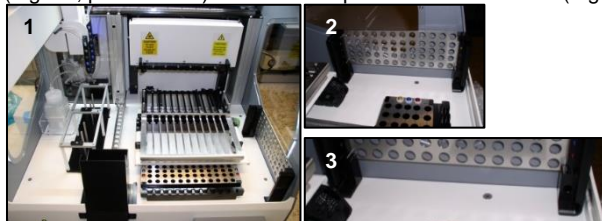

Fig. 28: Interior of the instrument for UV decontamination of the column rack and safety cover.
8. Replace all racks to the instrument. Place the column rack to the right side of the pipette tip holder for UV cleaning (Fig. 28, part 1).
Place the cleaned safety cover of the reagent vial rack on the right side of the instrument. The back side of the cover is face in the inside of the instrument (Fig. 28, part 1 and 2). The cover is place on the black feet (Fig. 28, part 2).